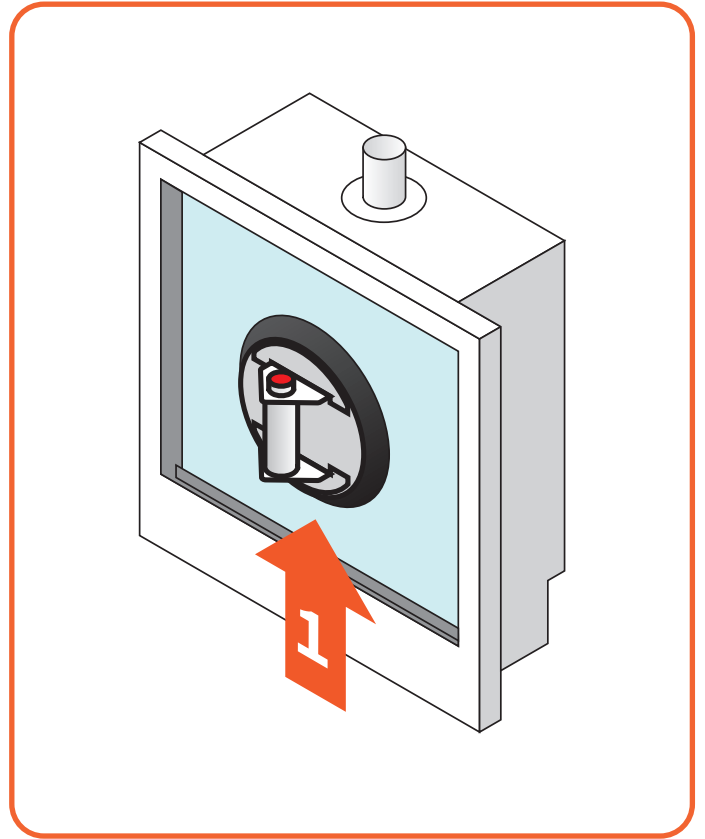

Figure 10.5 - Put on the suction cup and lift window
- Put the suction cup on the glass and make sure it is properly vacuumed, so it will not come off. (See *Figure 10.5*)